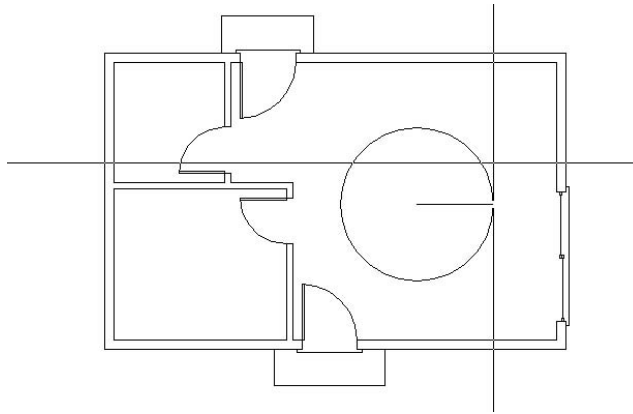

FIGURE 5.10: The circle attached to the crosshair cursor
3. Pick a point in the middle of the largest room of the cabin. The center is now established, and as you move the cursor, the circle changes size and becomes attached to the crosshair cursor (see Figure 5.10). You could pick a point to establish the radius, but in this case, you know exactly what you want the radius to be.